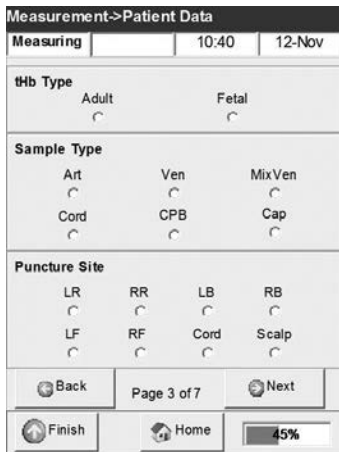

Fig. 5-16 Edit patient data (3)
12. Press **Next** again and the following patient information is displayed (Fig. 5-16):